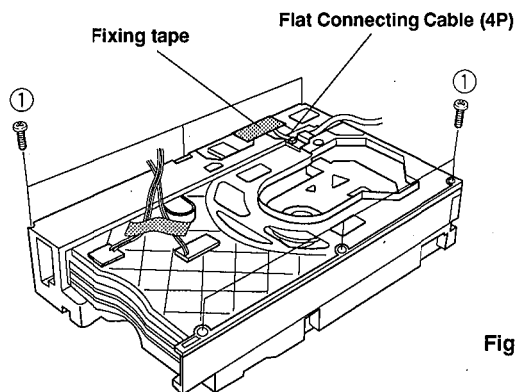

Fig. 1
- Remove 6 screws (①) in Fig. 1.
- Remove the fixing tape in Fig. 1.
- Disconnect the Flat Connecting Cable (4P) in Fig. 1.